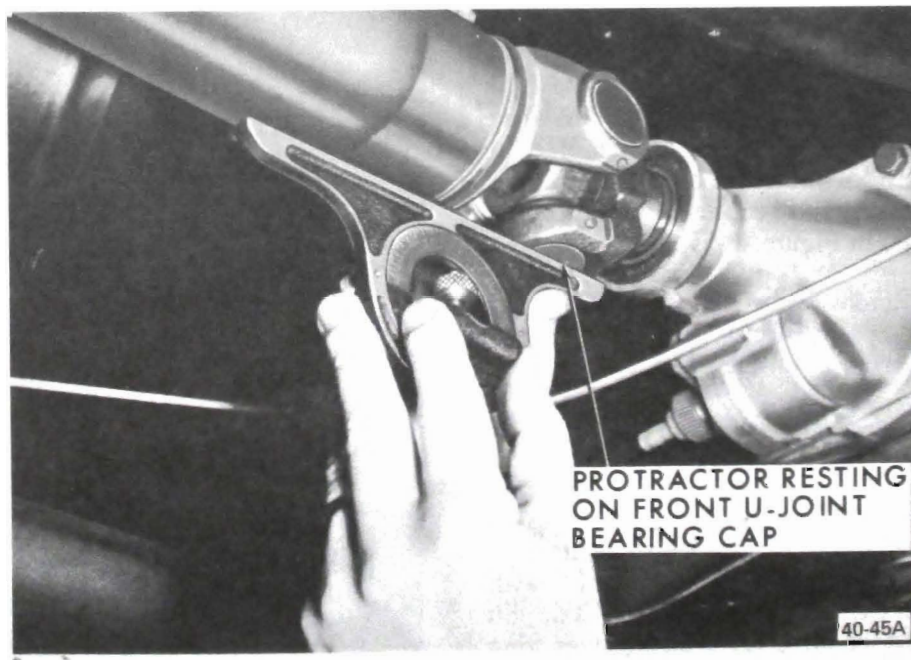

Figure 40-60 - Measuring Transmission Angle
4. Hold end of protractor firmly on front universal joint bearing cap. See Figure 40-60. Center bubble in sight glass and record measurement in degrees ().